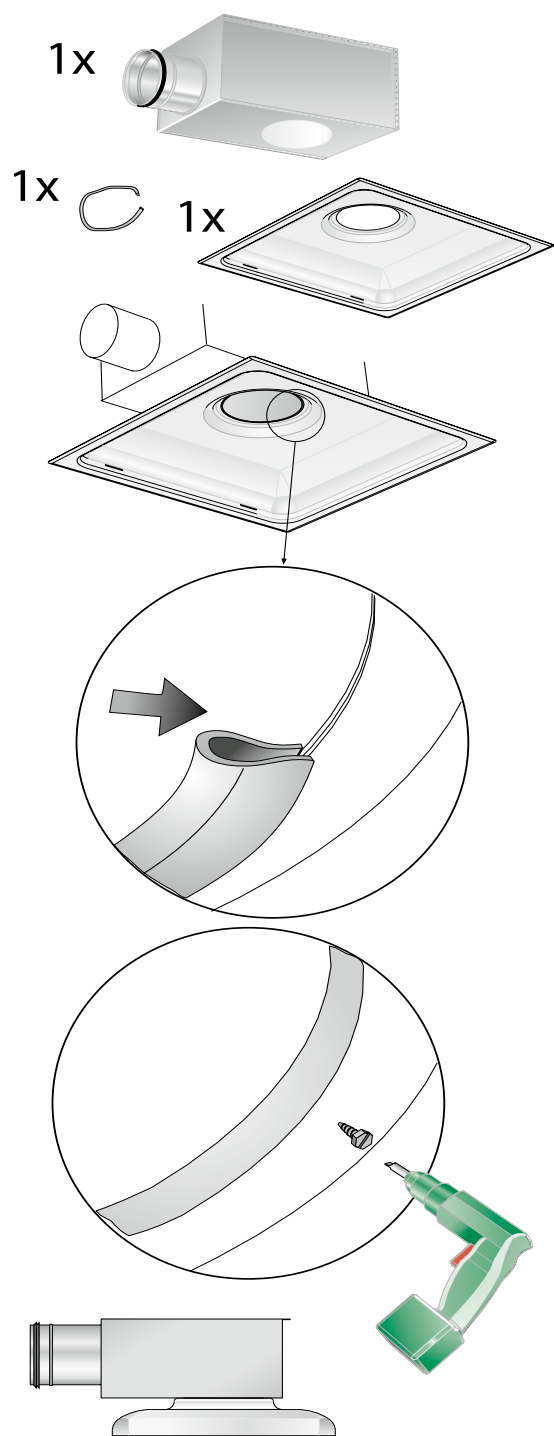

Figure 4. Installation of air diffuser and ALS commissioning box with low installation height.
- The air diffuser and ALS commissioning box with low installation height are centred with each other using the supplied locking strip. The air diffuser is secured in the correct position with screws or blind rivets in the underside of the commissioning box, see figure 4.